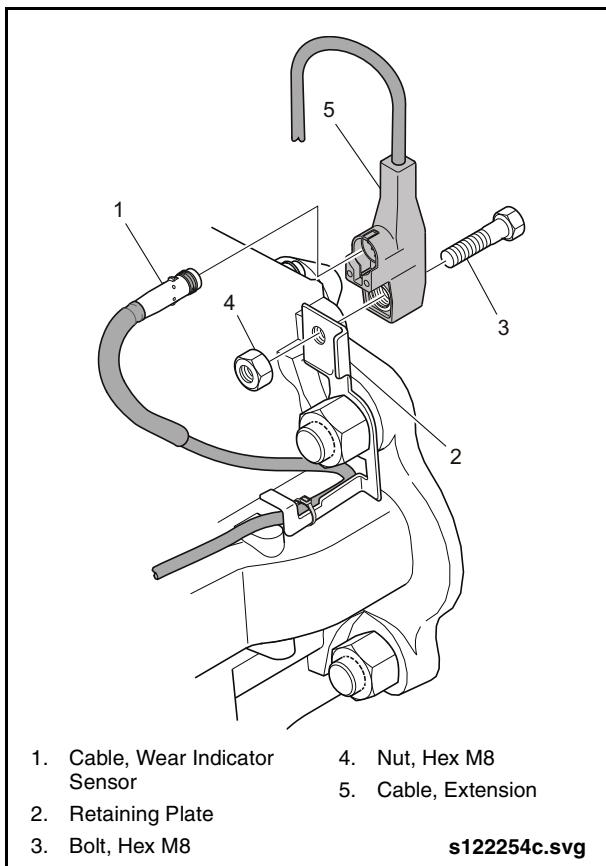

Fig. 1-51: Wear Sensor Cable Extension Removal
6. Remove the bolt and nut holding the wear sensor cable extension to the bracket on the brake caliper. See "Fig. 1-51: Wear Sensor Cable Extension Removal" on page 60.